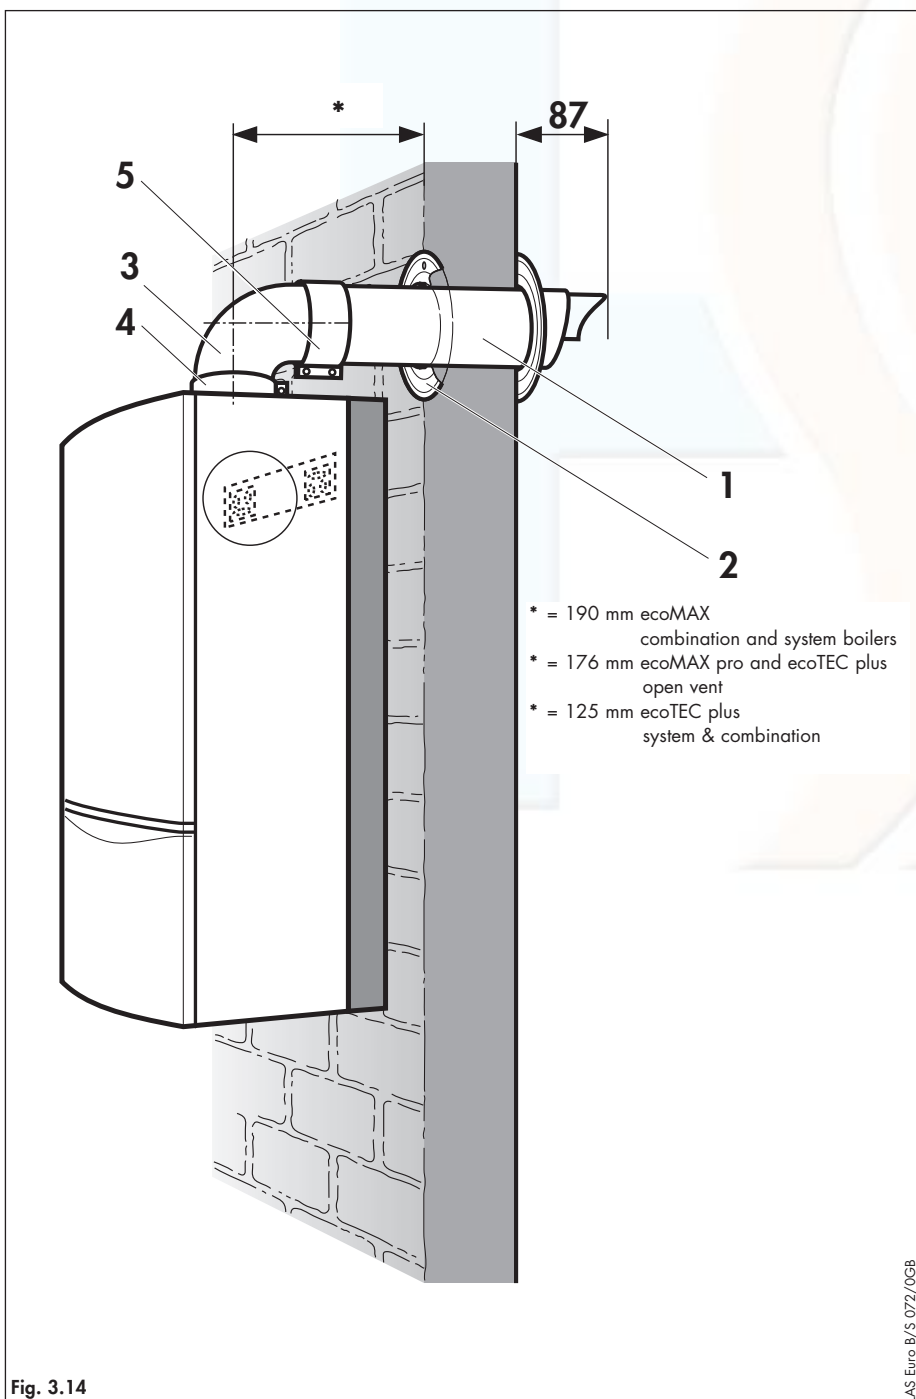
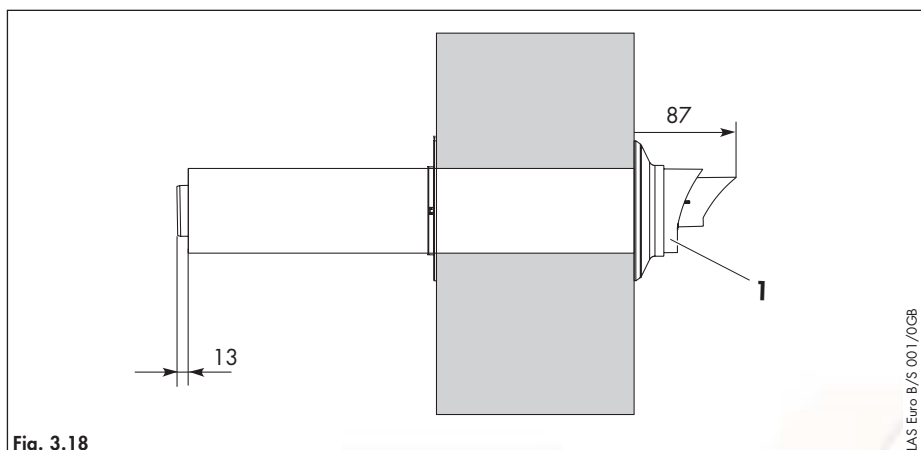

Fig. 3.14
Fig. 3.18
- Push the air/flue duct assembly (1) including the flexible external seal through the wall until the seal clears the outside face of the wall and pull air/flue duct back towards the boiler until the external seal touches the outside wall (fig. 3.14 and fig. 3.18).
- Ensure that the air/flue duct (1) is centred in the hole and the terminal is correctly positioned with the inlet grille at the bottom (fig. 3.14 and fig. 3.18).
- Slide the internal trim ring (2) over the air duct until it is flush with the wall (fig. 3.14).
- Fit the elbow (3) to the boiler by inserting the spigot of the flue elbow into the flue socket on the boiler and secure using the 30 mm air duct clamp (4) provided (fig. 3.14).
- Fit the 48 mm air duct clamp (5) ensuring that it is positioned centrally (fig. 3.14).